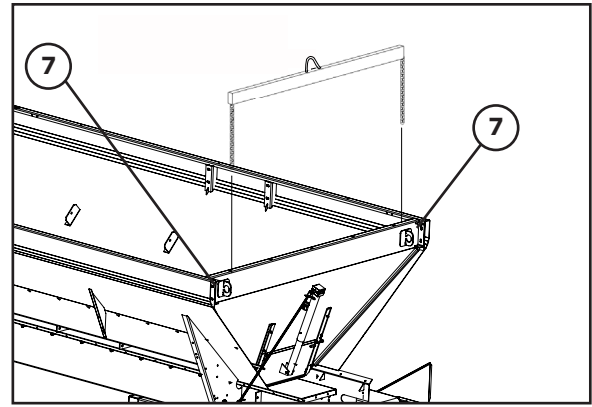

Figure 2
12. Figure 2 - Support endgate by attaching a hoist to the lift hooks. Remove hardware (7) from both sides of the endgate and carefully remove from the spreader.